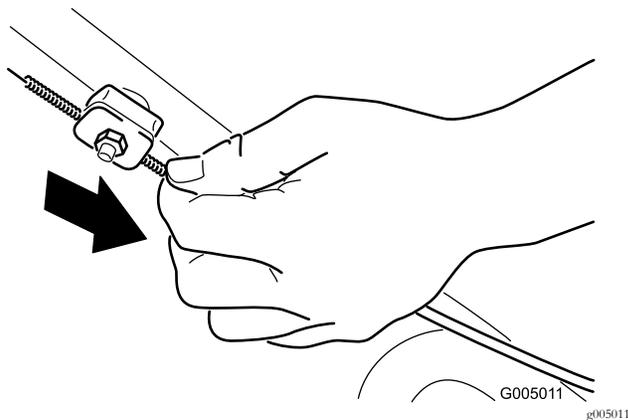

Figure 36
3. Pull down the cable jacket (toward the mower) until there is no slack in the cable (Figure 36).